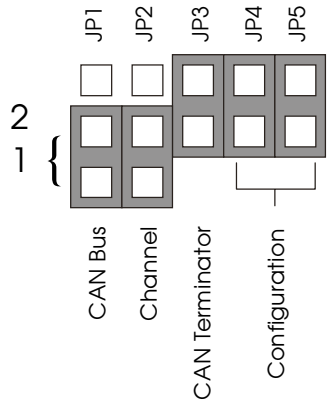

Figure 50: Static Configuration Jumper Position
1. Make sure that jumpers JP1 and JP2 (CAN Bus channel) on the CAN Peripheral are fitted in position 1 (CAN1), as shown in Figure 50.
2. Make sure that jumper JP3 (CAN terminator) on the CAN Peripheral is fitted, as shown in Figure 50.
3. Make sure that jumpers JP4 and JP5 (configuration) on the CAN Peripheral are fitted, as shown in Figure 50.